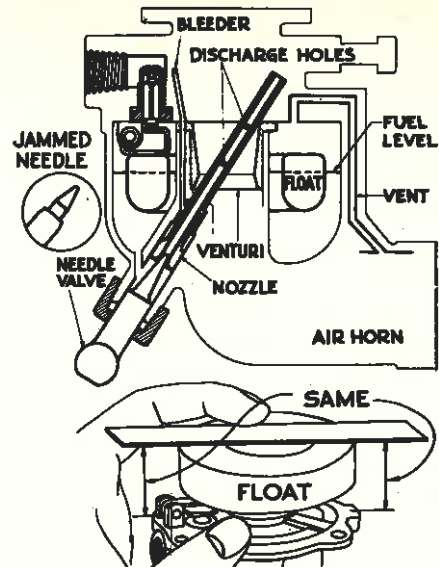

Figure 16
To set the level on the carburetor, invert the upper body as shown. See Fig. 16. The float and the body cover should be parallel. If not, bend the tang on the float to obtain this position. The actual distance on the small carburetors is $5/16$ of an inch between the float and the gasket. On the larger models it is $3/16$ of an inch. It is seldom necessary to measure this distance. The float level is not as critical as on some carburetors. Remember, however, that there should be one gasket between the float valve seat and the carburetor. No gasket or two gaskets will change the float level.
Here is shown the position of the nozzle and the fuel level. See Fig. 16. The fuel in the bowl seeks its own level, which is well below the discharge holes. Notice that the discharge holes are in the venturi, the place of greatest air velocity. As the piston in the cylinder moves down with the intake valve open, it creates a low pressure area that extends down into the carburetor throat and venturi. Two things start to happen.
The ideal combustion mixture is about 14 or 15 pounds of air, in weight, to one (1) pound of gasoline. Remember that an engine operating under heavy load requires a richer mixture than under light load. In order to regulate the mixture, we place in the carburetor a threaded needle valve with a tapered point which projects into the end of the nozzle. See Fig. 16.
The inset of Fig. 16 shows what happens when the needle valve is turned too far. A square shoulder is produced on the taper. It is possible, of course, to adjust the carburetor with the needle valve in this condition, but it is quite difficult, because a small movement of the needle makes a big difference in the amount of fuel that can enter the nozzle. And, if you do get it adjusted, the vibration can soon throw it off.